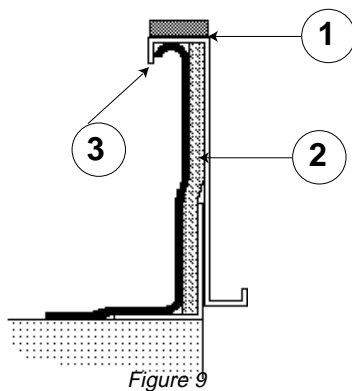

Figure 9
Assembly joint (1 - figure 9)
Insulate the frame before installation. We recommend the minimum application of 20 mm thick insulation. Check that the covering is continuous and apply a seal (2 - figure 9).
**CAUTION :** To be effective, the upstream must end below the drop edge (3 - figure 9)